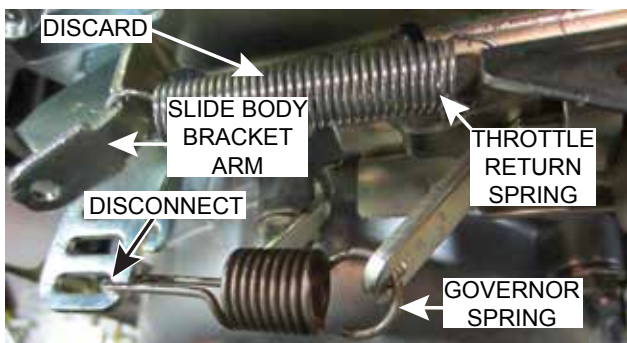

Figure 8. Throttle/Governor Spring Disconnection
- Using needle nose pliers, disconnect one end of the governor spring as shown in Figure 8.
- Using needle nose pliers, disconnect one end of the throttle return spring from the slide body bracket arm as shown in Figure 8. The throttle return spring will be replaced with a new throttle return spring (P/N 32528).